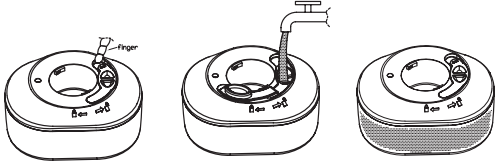

Figure 2
3. Take the water tank to a sink. Pull the rubberized water-fill cover to open and pour tap water from the faucet into the water-fill opening until it reaches the Max water level in water tank (Figure 2). If water spills outside of the tank, or within the center water tank cavity, wipe it dry with a paper towel or cloth.